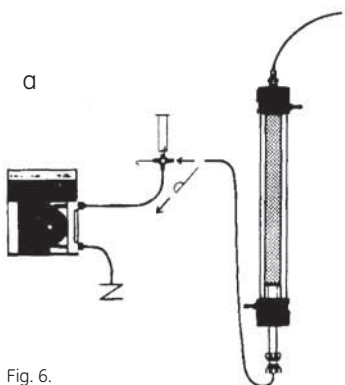

Fig. 6.
16. Turn the column upside-down (Fig. 6) or use it with upward flow.